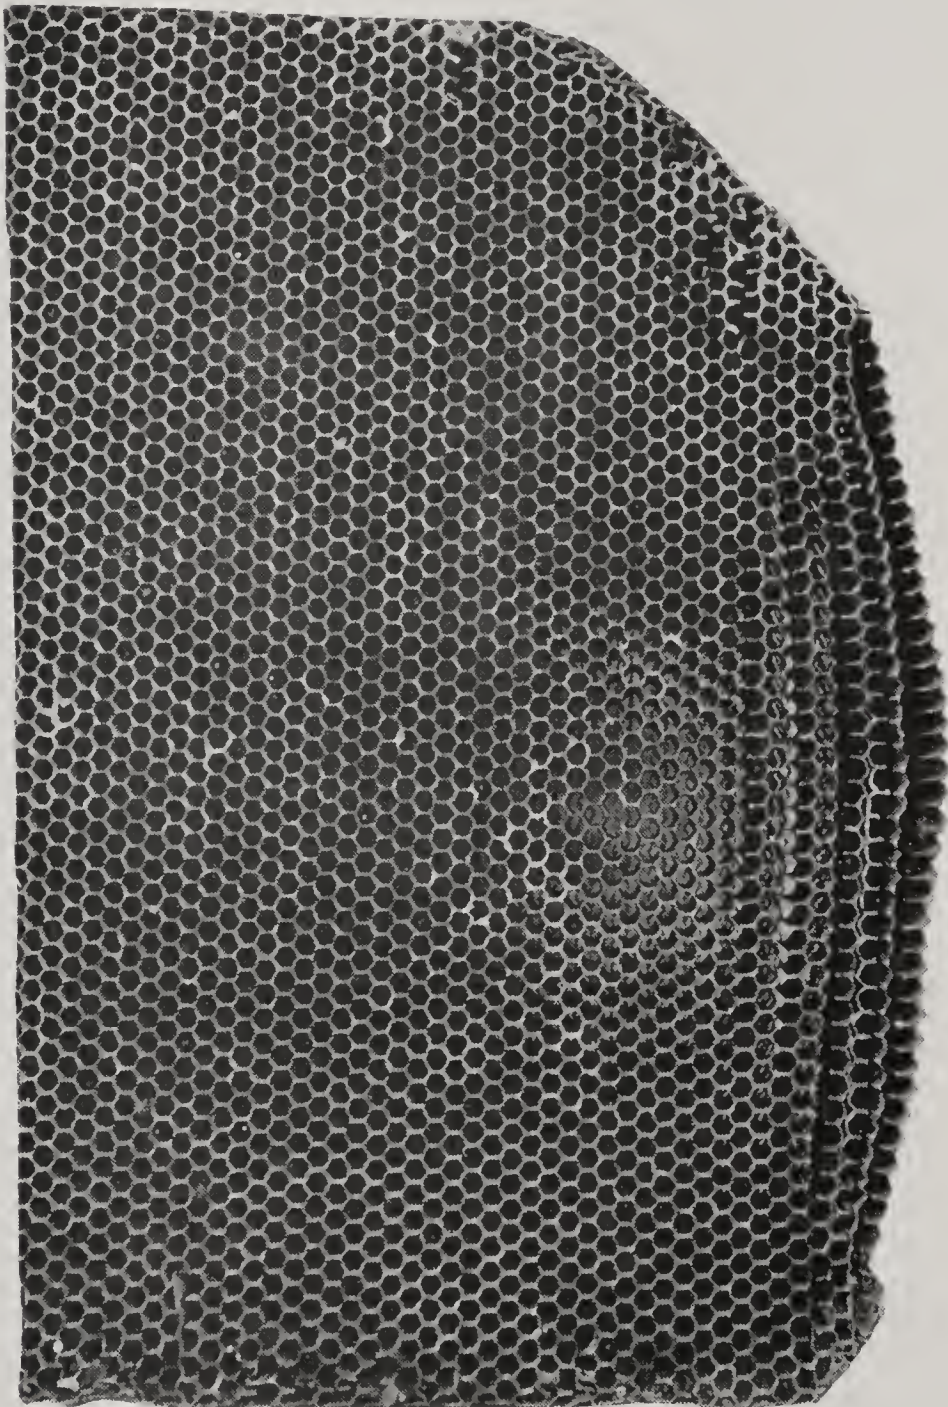

Fig. 110
54. **Core Damaged by Lateral Strain**—The feature embodied in the construction of radiators that causes the most serious damage is the soldering of the honey comb core to the core channels, side walls or radiator support. Lateral strain thrown on a core by road shock, vibration, etc., centers itself on the solder joints of water tubes and false work at each edge of the core. These joints are only one-fourth inch wide often only one-sixteenth inch. They are designed to hold two ribbons of metal averaging five one-thousandths of an inch in thickness. The result of soldering the core channels to the core is illustrated in Fig. 110. It is too much to expect the core to withstand such cross strain.